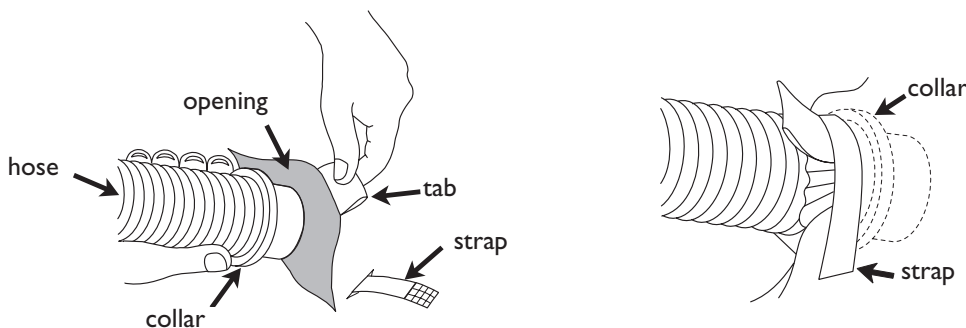

Figure 5 - Attaching hose to Quilt
3. Insert the end of the hose into the Quilt opening (fig. 5). Secure the hose tightly.